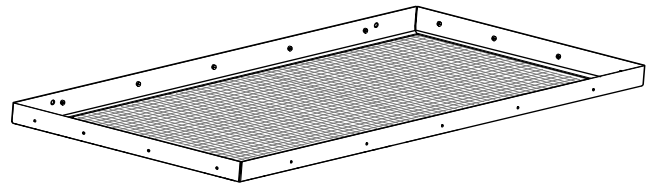

FIG.2
5. Remove the glass from the door frame. **(FIG.2)**
3. Remove the 10 top and bottom screws and the 8 side screws (**FIG. 2**).